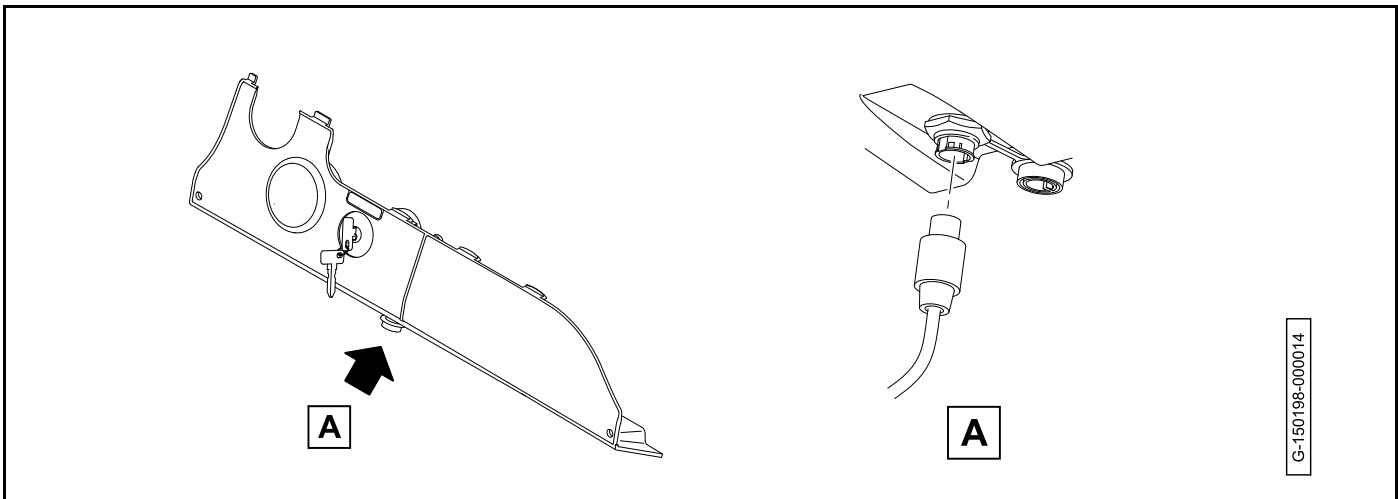

Figure 12-7
4. Connect the CDT to the vehicle (**Figure 12-7**).